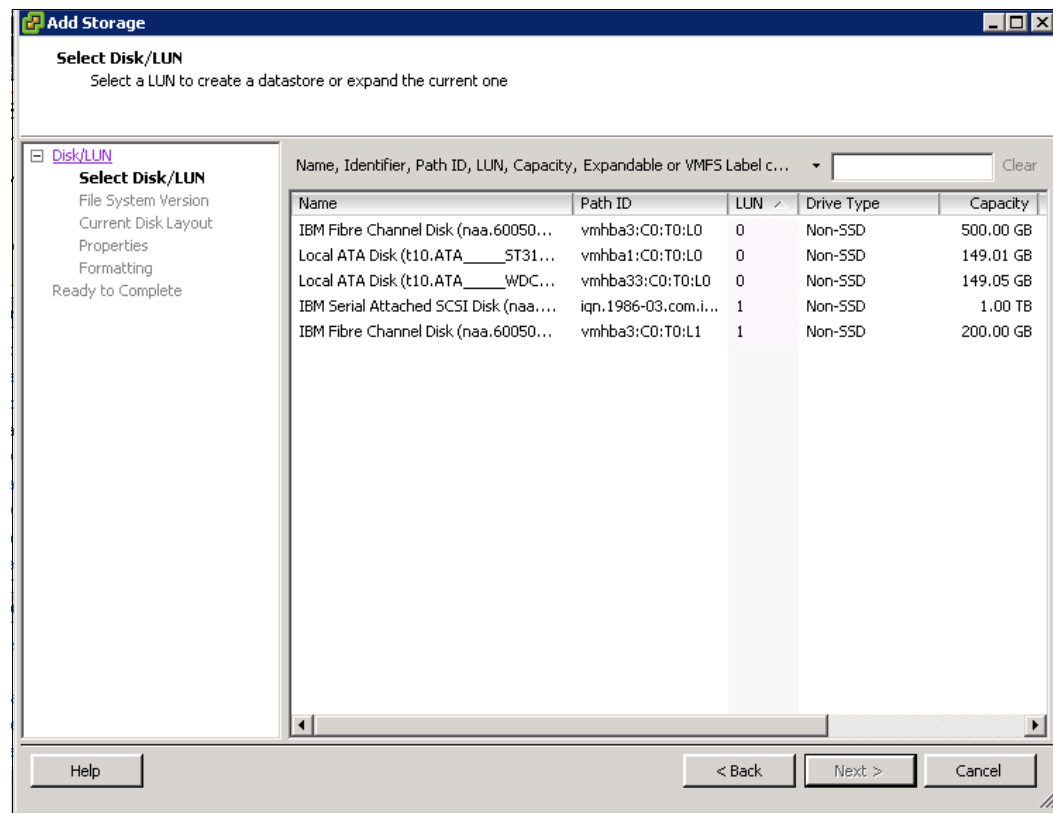

Figure 5-72 Select FC Disk
6. The Add Storage wizard opens. Click **Select Disk/LUN** and click **Next**. The IBM Storwize V5000 disks appear, as shown in Figure 5-72. In our example, they are the Fibre Channel Disks. We continue with the 500 GB volume, which we highlight and then click **Next**.